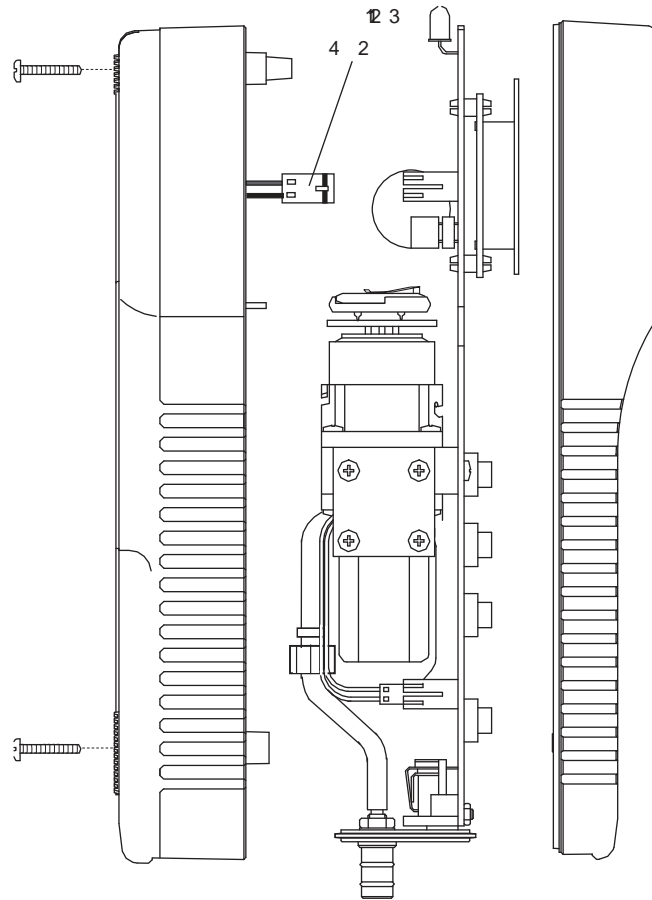

Figure 6-1. Disassembling the Analyzer
3. Carefully lift the rear case from the analyzer, unplug the battery compartment wires, then place the rear housing on a work surface (see Figures 6-1 & 6-2).